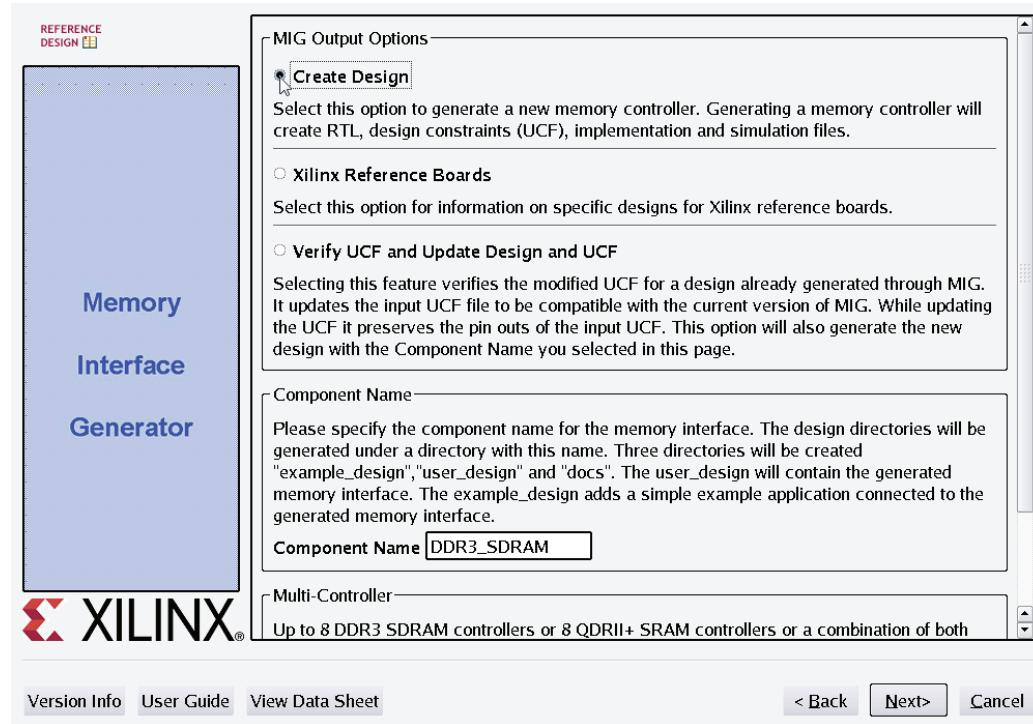

Figure 27: MIG Output Options
14. Select **Create Design** and click **Next** (Figure 27). For Number of Controllers, use the default value of **1**.